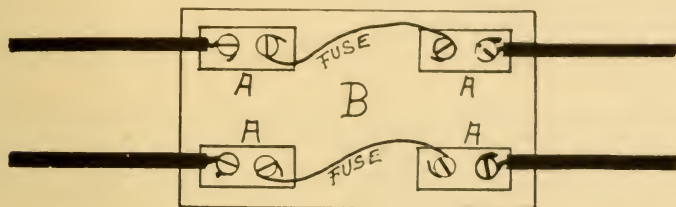

FIGURE 22A
(70) To guard against this we have the "fuse," which is a short piece of conductor made from an alloy that will melt at far lower temperature than copper. (71) The fuse is usually connected to both wires of a circuit, as shown in Fig. 22A, though in actual practice raw wire is seldom used. (72) Fuses will melt quickly at low temperature, when wires become overloaded and their